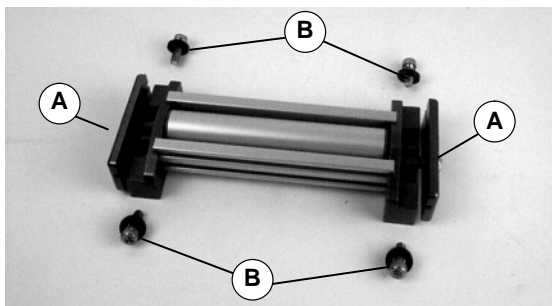

Figure 2
2. Assemble components as shown (Figure 2). Loosen (but do not remove) screws (A) and remove screws and washers (B).